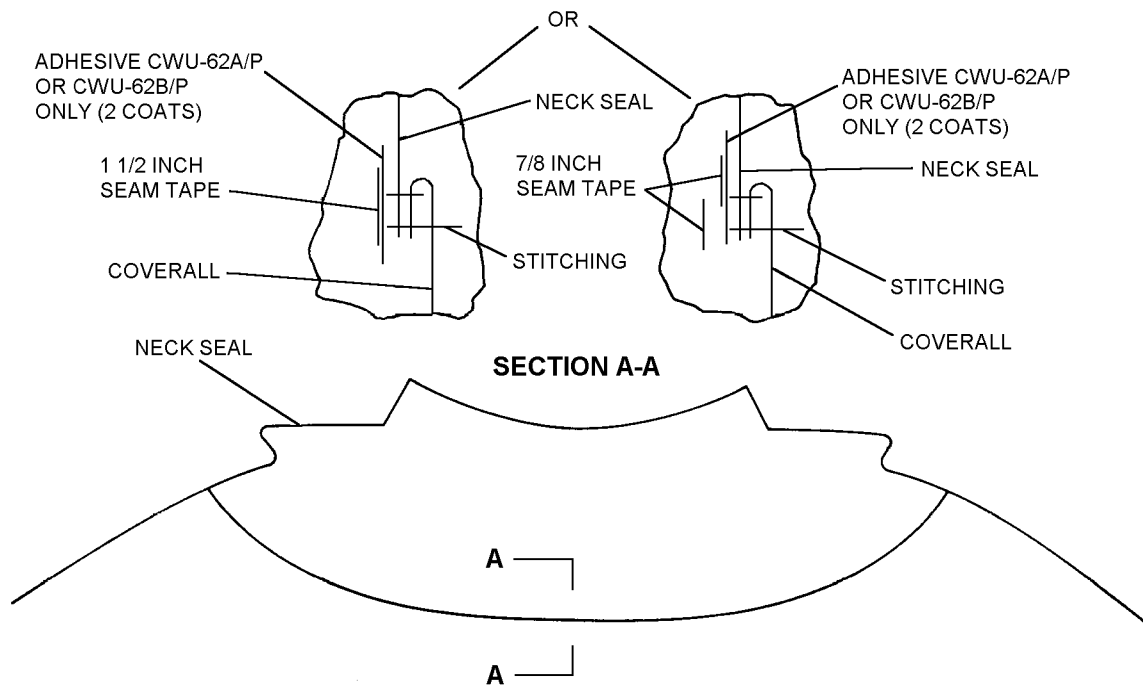

Figure 5-17. Attachment Seam (LSq-2), Neck Seal to Coverall
7. Attach seal using seam type LSq-2 (figure 5-17). First row of stitches shall be placed 3/8 inch from cut edge of fabric. Nomex thread is suggested due to the needle heating up as it passes through the rubber causing nylon threads to break. Otherwise the needle will need to be cooled while sewing.
13. Apply seam tape to inside of seam. If 7/8-inch seam tape is used, two layers of seam tape shall be applied in order that stitching and cut edges of material are overlapped a minimum of 1/4 inch (figure 5-17). Overlap ends of seam tape 1 inch. Tape shall extend 1/4 inch beyond folded edge of material.